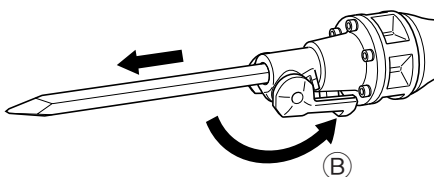

Fig. 6
- (3) Clamp the accessory into place by bringing the retainer to clamp position (B). To make sure that the accessory is properly mounted, pull on the accessory. (Fig. 6)